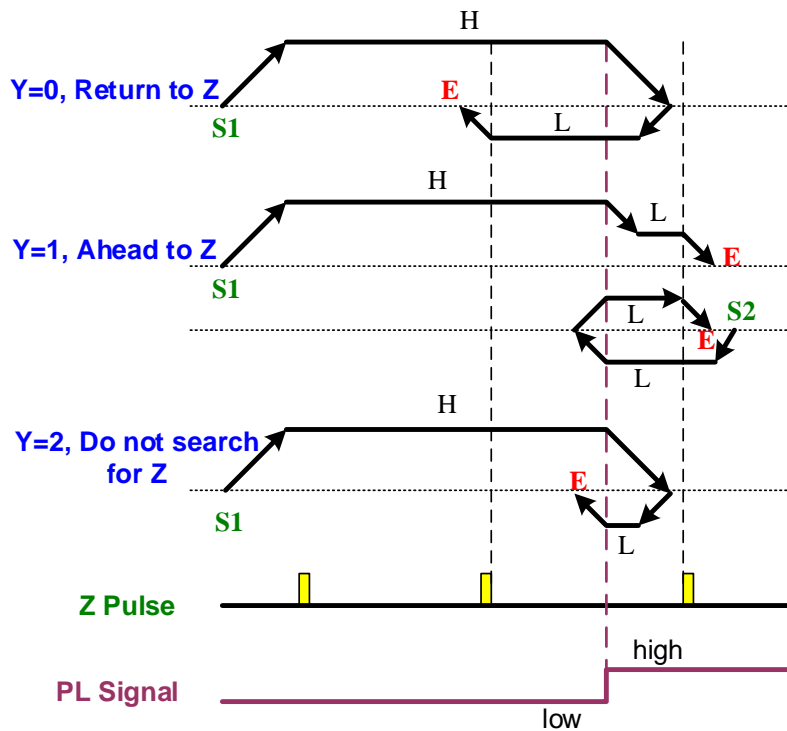

Figure 1.18 Homing Path when Reference to Limit Signal
If the setting of homing is identical, the origin being found will be exactly the same regardless of the starting position. See Figure 1.18 for homing path and its codes.
In Figure 1.18, take Y=1 and look for Z for example, no matter the starting position is S1 or S2, it will stop at position E after homing is completed. When starting position is S1, the motor will operate at higher speed until reaching the rising signal of positive limit (PL) and then turn to lower speed to look for Z pulse. When Z pulse is found, the motor will decelerate to stop. When starting position is S2, as the PL is triggered, ASDA-A2 servo drive will have sensed that the current position has gone beyond the PL signal; motor will return and look for the rising signal of PL at low speed; upon finding, motor moves backward to look for Z pulse and then stop.